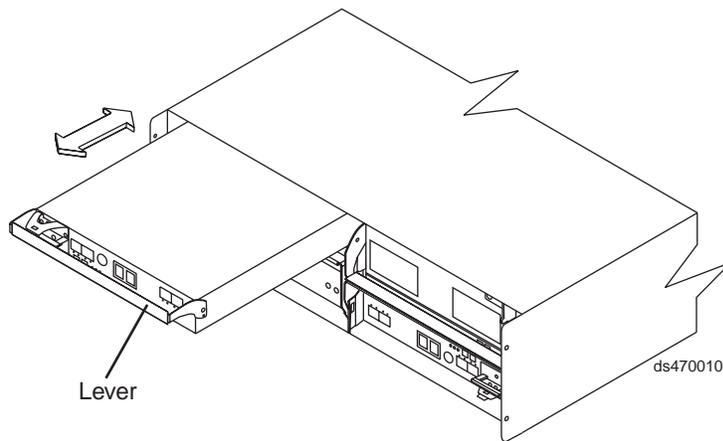

Figure 71. Removing a controller from the DS4200 Express
9. Slowly pull the lever away from the chassis to remove the controller from the bay. Use two hands when releasing the controller levers. Figure 71 shows the controller sliding from the storage subsystem chassis.